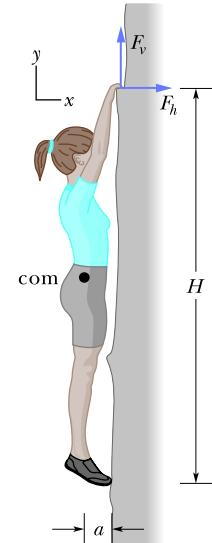

Figure 12.36
- 36 M BIO FCP** Figure 12.36 shows a  $70 \text{ kg}$  climber hanging by only the *crimp hold* of one hand on the edge of a shallow horizontal ledge in a rock wall. (The fingers are pressed down to gain purchase.) Her feet touch the rock wall at distance  $H = 2.0 \text{ m}$  directly below her crimped fingers but do not provide any support. Her center of mass is distance  $a = 0.20 \text{ m}$  from the wall. Assume that the force from the ledge supporting her fingers is equally shared by the four fingers. What are the values of the (a) horizontal component  $F_h$  and (b) vertical component  $F_v$  of the force on *each* fingertip?